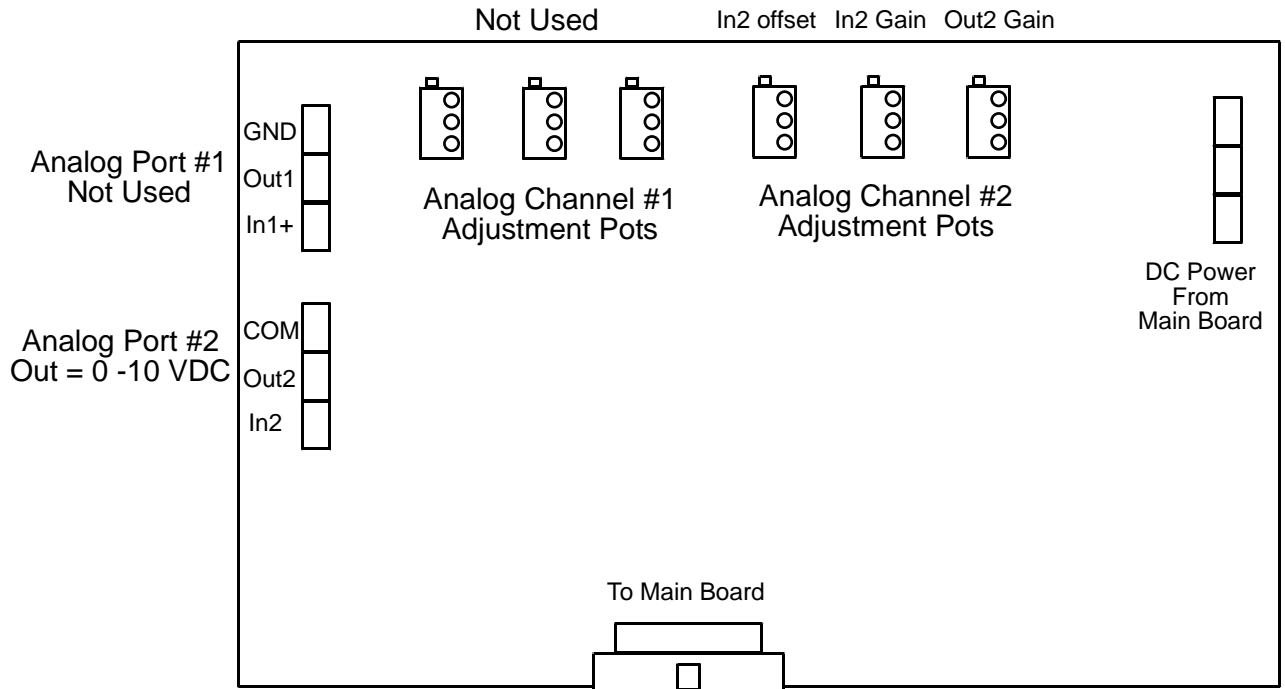

Figure 4-7. Analog board (lower board) adjustment potentiometers
3. Locate the three Analog 2 Port potentiometers found on the edge of the lower board. Find the one that is labeled Out 2 Gain. Refer to Fig 4-7 for its location.
5. Put a voltmeter across the terminals Out2 and COM (common). Refer to Figure 4-7 for its exact location. The voltage reading should read 10VDC. If it doesn't, adjust the Out 2 Gain potentiometer until it does.
6. After you have adjusted Out2 to the 10VDC you will need to calibrate the input 2 (In2). Refer to Figure 4-7 for its exact location. Find an output from the variable speed drive that will give you a 0-10 VDC output, which corresponds to the flywheel speed.